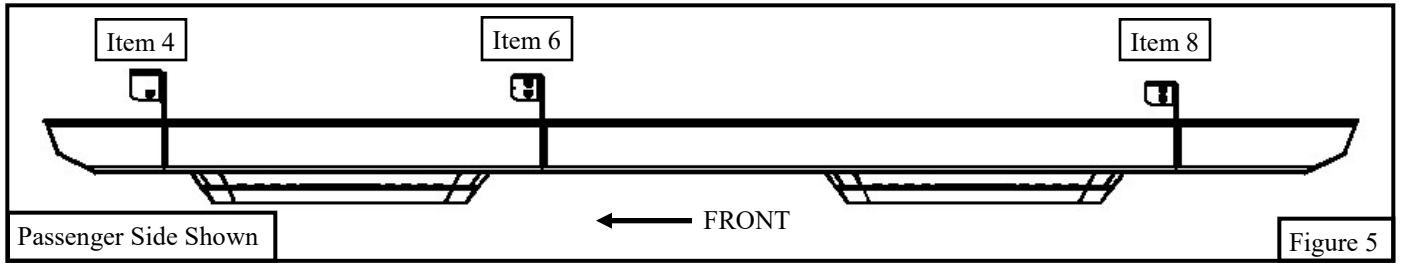

Figure 5
7. See **Figure 5** for reference.